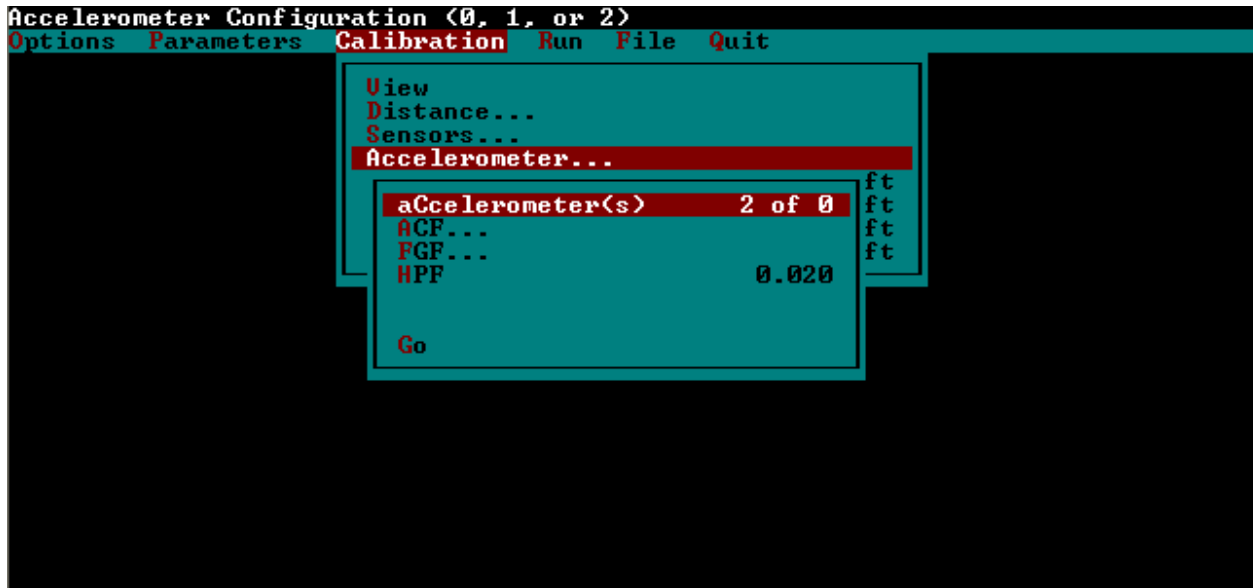

Figure 3-2. MDR Software Accelerometer Calibration Menu.
2. In the MDR main menu, select 'Calibration' to display the calibration menu. In the Calibration Menu, highlight 'Accelerometer' and press Enter key, and the Accelerometer Calibration Menu shown in Figure 3-2 will be displayed on the monitor. The parameters are as follows: